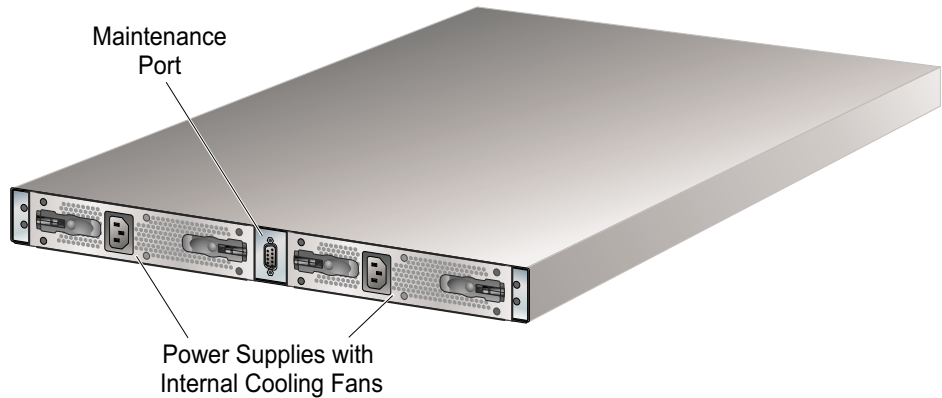

Figure 1-3 Sphereon 4500 Switch (Rear View)
Figure 1-3 on page 1-4 illustrates the rear of the switch. Power supply assemblies with internal cooling fans are the only FRUs accessed from the rear. The figure also shows the maintenance port.
- **Power supply assembly** - An amber LED on each assembly (Figure 1-3 on page 1-4) illuminates if the FRU fails.
The rear panel provides a 9-pin DSUB maintenance port (Figure 1-3 on page 1-4) that provides a connection for a local terminal or dial-in connection for a remote terminal. Although the port is typically used only by authorized maintenance personnel, operations personnel can use the port to configure switch network addresses.